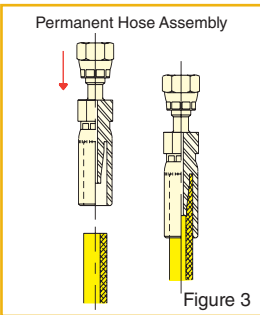

Figure 3
1. Lightly tap the fitting onto the hose with a rubber mallet. Ensure the fitting rests snug against the shoulder. The guideline on the outside of the socket indicates the shoulder (Figure 3).